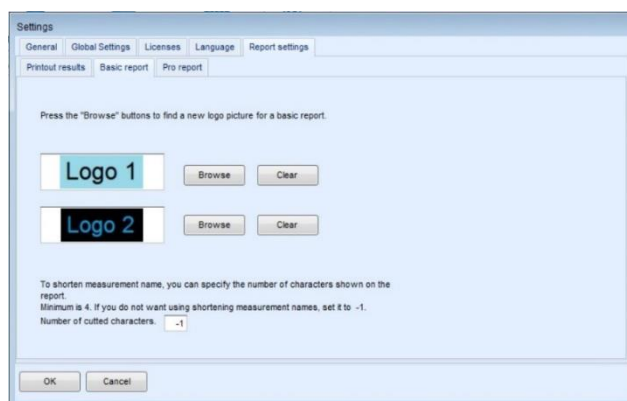

Figure 9.4: Basic report header logo setup
- Select the Basic report tab (**Figure 9.4**) to open Logo setup options: